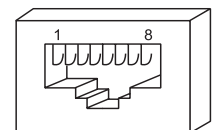

Figure 2. RJ-45 Socket
- Connect the line cable to the RJ-45 socket (see Table 3 and Figure 2).